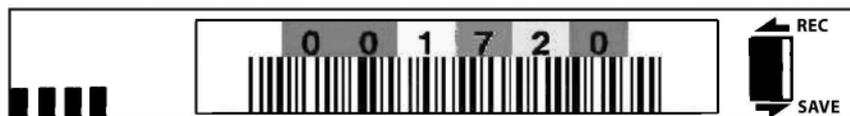

Figure 7-4 Sample AIT bar code label applied to a data cartridge.
3. Make sure that all bar code labels are installed parallel to the cartridge edge (Figure 7-4).